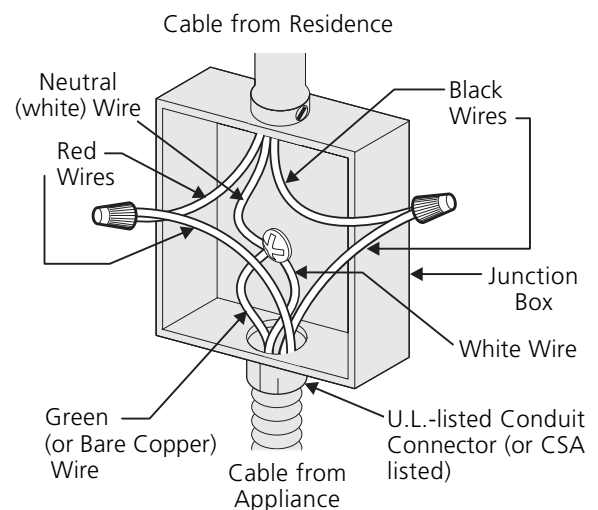

Figure 6
**Where local codes permit connecting the appliance-grounding conductor to the neutral (white) wire (see Figure 6):** (The 3-conductor cord or cable must be replaced with a 4-conductor cord or cable where grounding through the neutral conductor is prohibited in new installations, mobile homes, recreational vehicles or in other areas where local codes do not permit neutral grounding)